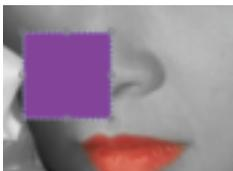

Figure 7
2. Choose a solid fill of any colour and add a rectangle as an object anywhere on your image. Your image might now look like **Figure 7**.